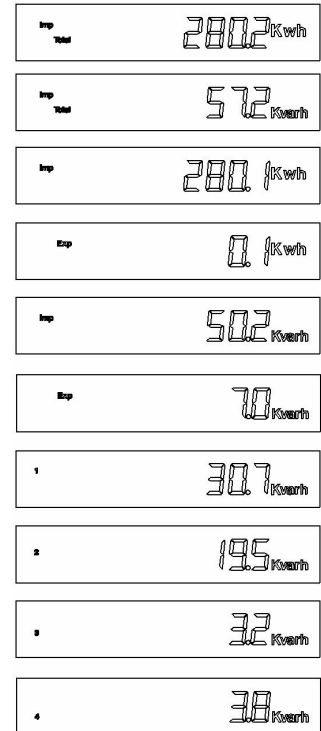

Fig.3.3.4 Display introduction
Segregated active power, segregated reactive power, segregated apparent power, total power (PQS). Short press F3 to check all the pages. *Pls notice when 3 Phase 3 Wire, it can only display the three phases total phase PQS page. As fig.3.3.4
- As fig.3.3.4